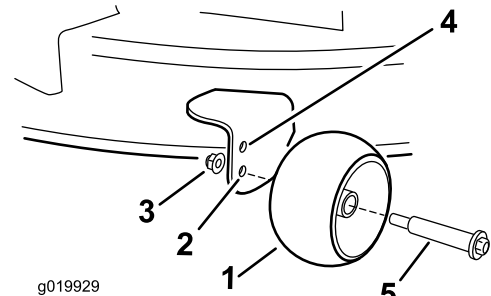

Figure 18
- Upper hole—use this position with the mower deck in the 63 mm (2-1/2 inch) and below height-of-cut positions (Figure 18).
- Lower hole—use this position with the mower deck in the 76 mm (3 inch) and above height-of-cut positions (Figure 18).